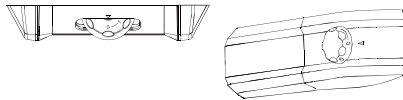

Fig.13
- 1) Rotate the knob to the "0" position (fig.13)